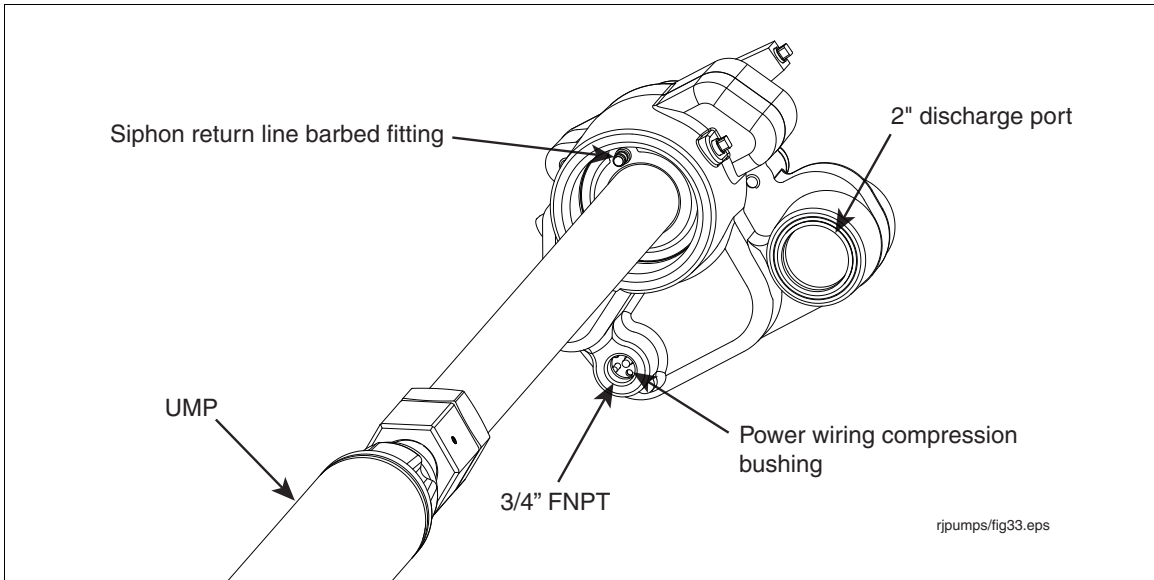

Figure 13. Locating Return Line Fitting On Packer
7. Attach the siphon return line tubing to barbed fitting in the base of packer and secure with a clamp (see Figure 13).